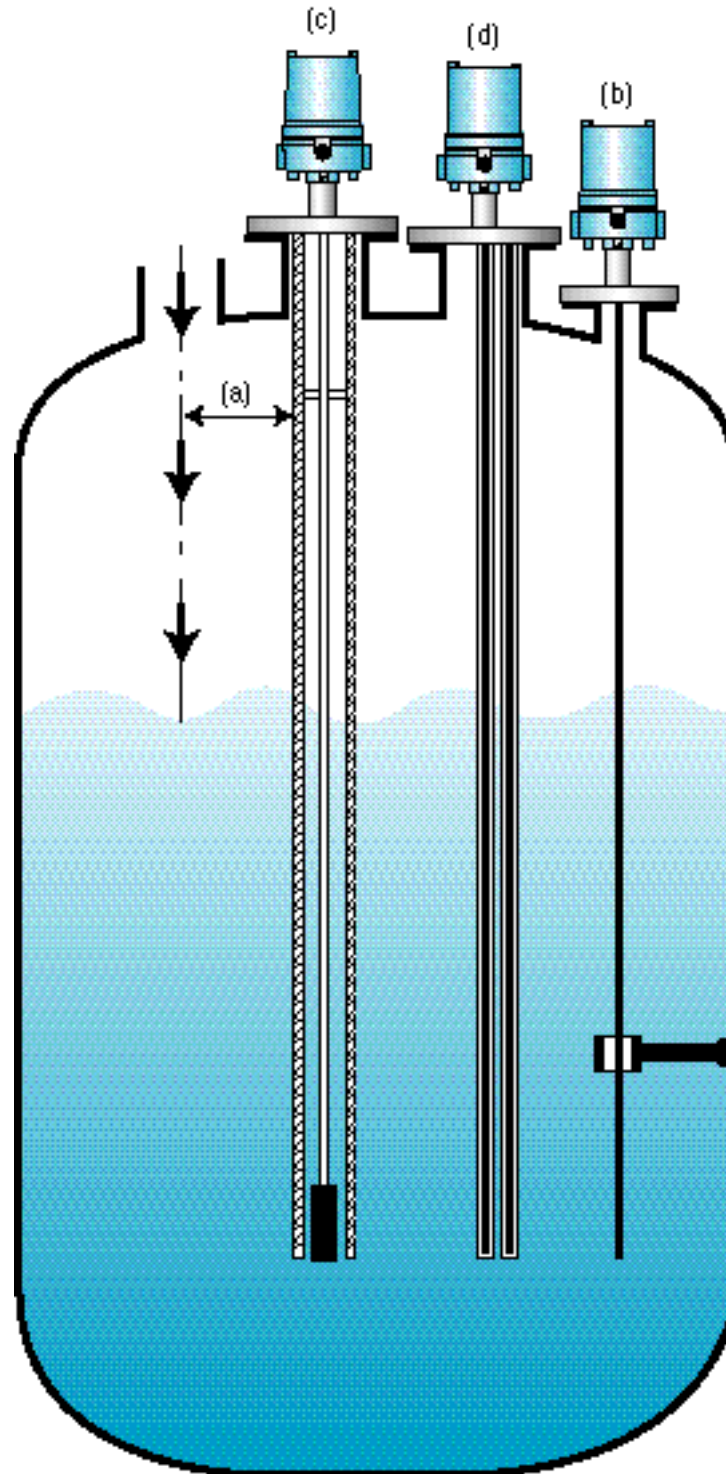

Fig. 3
- \* Probe should not be installed at incoming path of material to be measured. Fig. 3-(a)
- \* When a long probe is used, a mounting bracket completely insulated with the sensing probe is installed at the bottom of probe. Fig. 3-(b)
- \* When the material inside the tank is fluid-like, or tank material is concrete, a probe with a grounding tube (guide tube) should be used. Fig. 3-(c)
- \* When tank material is not electrically conductive, and material to be measured is chemical, a double-layer probe should be used. Fig. 3-(d)